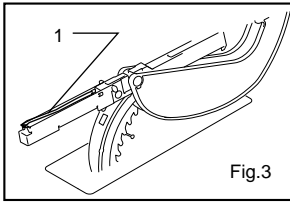

Fig.3
The riving knife/spreader unit can be made ready for the attachment of the guard assembly and side guards by positioning it at the maximum adjustable height as shown in Fig 3. In this position the unit is raised above the blade so that the guard assembly can be installed and made operational. Make sure that the release
3. Once the locking lever pin is placed into the riving knife/spreader notch it is to be locked into position by pushing the tab of the pin's locking lever into the locked position as shown in Figure 3. Once the pin's locking lever is in the locked position check to ensure that the guard assembly is properly attached to the riving knife/spreader assembly by pulling up on the guard assembly and making sure it does not move its position.
3. Once the locking lever pin is placed into the notch provided on the blade guard assembly it is to be locked into position by pushing the tab of the pin's locking lever into the locked position as shown in Figure 3.